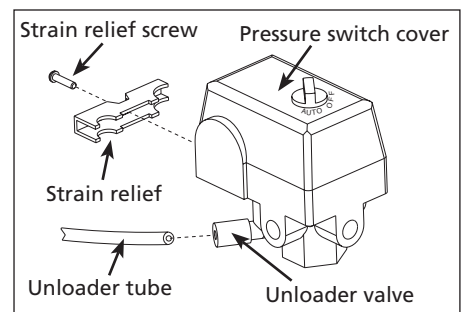

Figure 4
3. Connect the unloader tube to the unloader valve. Make sure you push the unloader tube all the way into the unloader valve so that it seats properly (See Figure 4).
4. Connect the three wires (black, white, and green) from the line cord to the terminals on the new switch. Connect the three wires (black, white, and green) from the motor cord to the terminals on the new switch. Refer to the wiring diagram on the inside of the switch cover. Use the new set of ground screws and the new strain relief screw included with the new switch. Discard the screws from the old switch. Install one of the new strain reliefs included with the new switch. Choose the strain relief that most closely resembles the old strain relief. (See Figure 4).